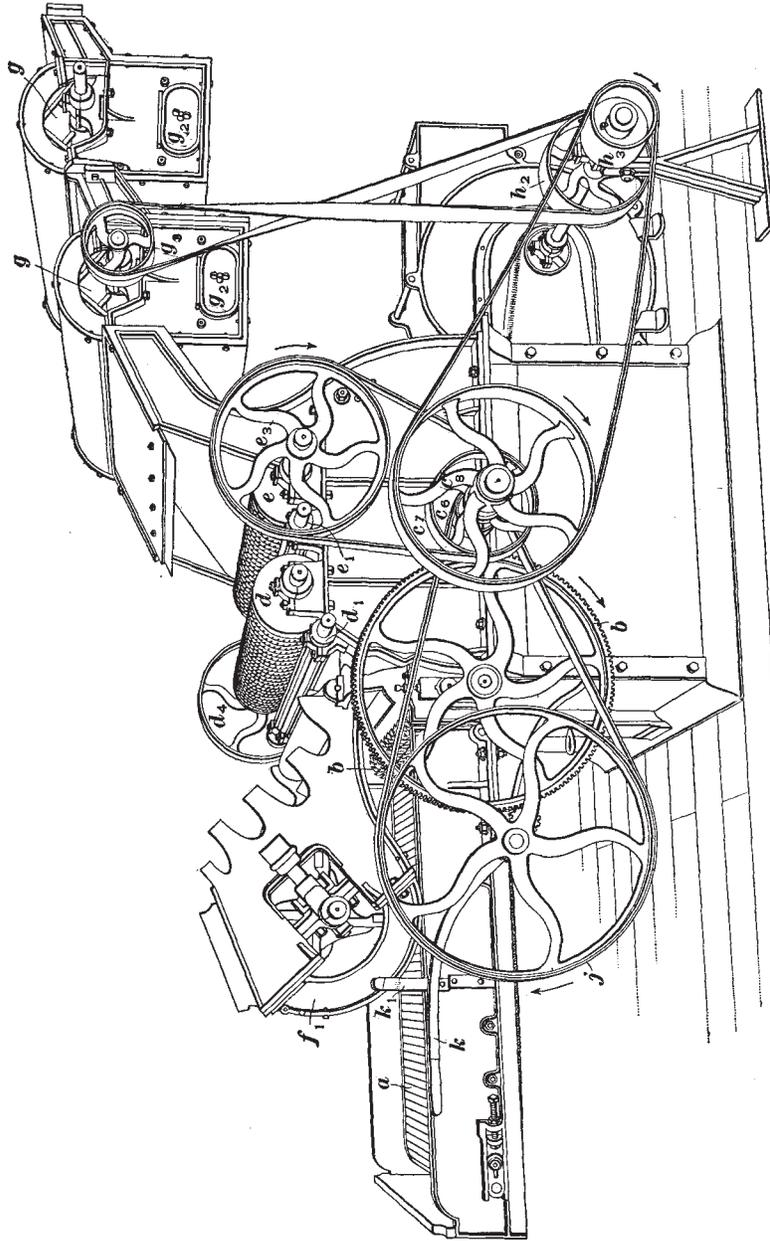
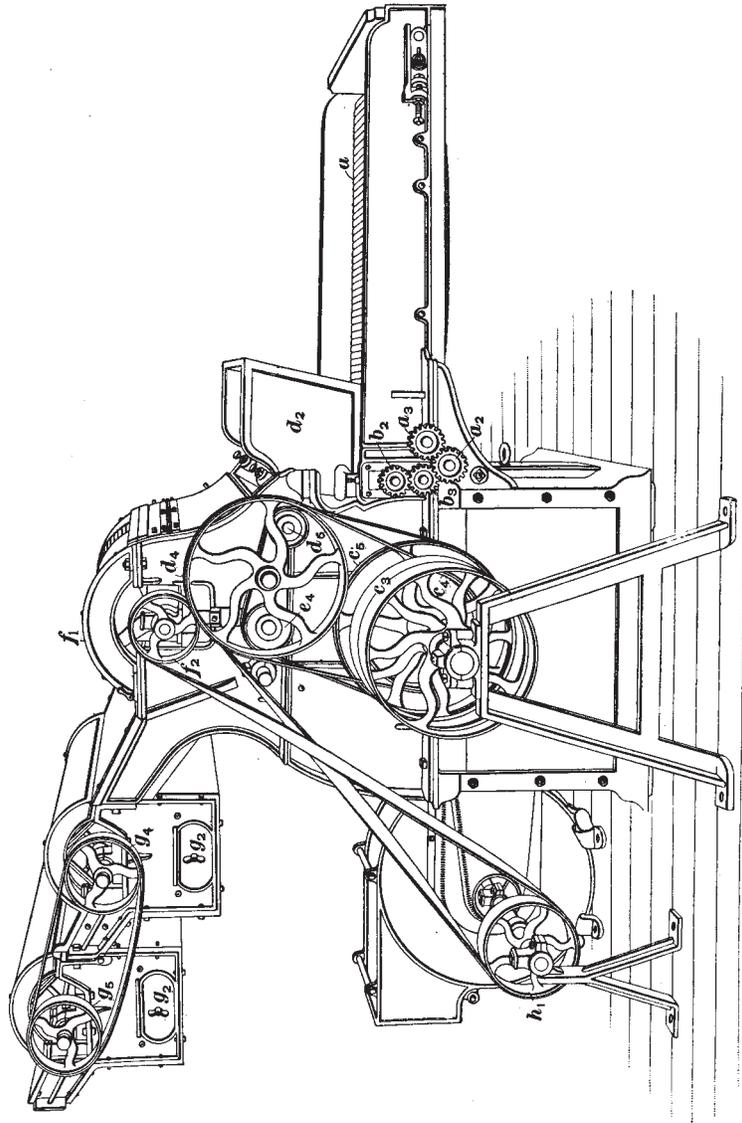
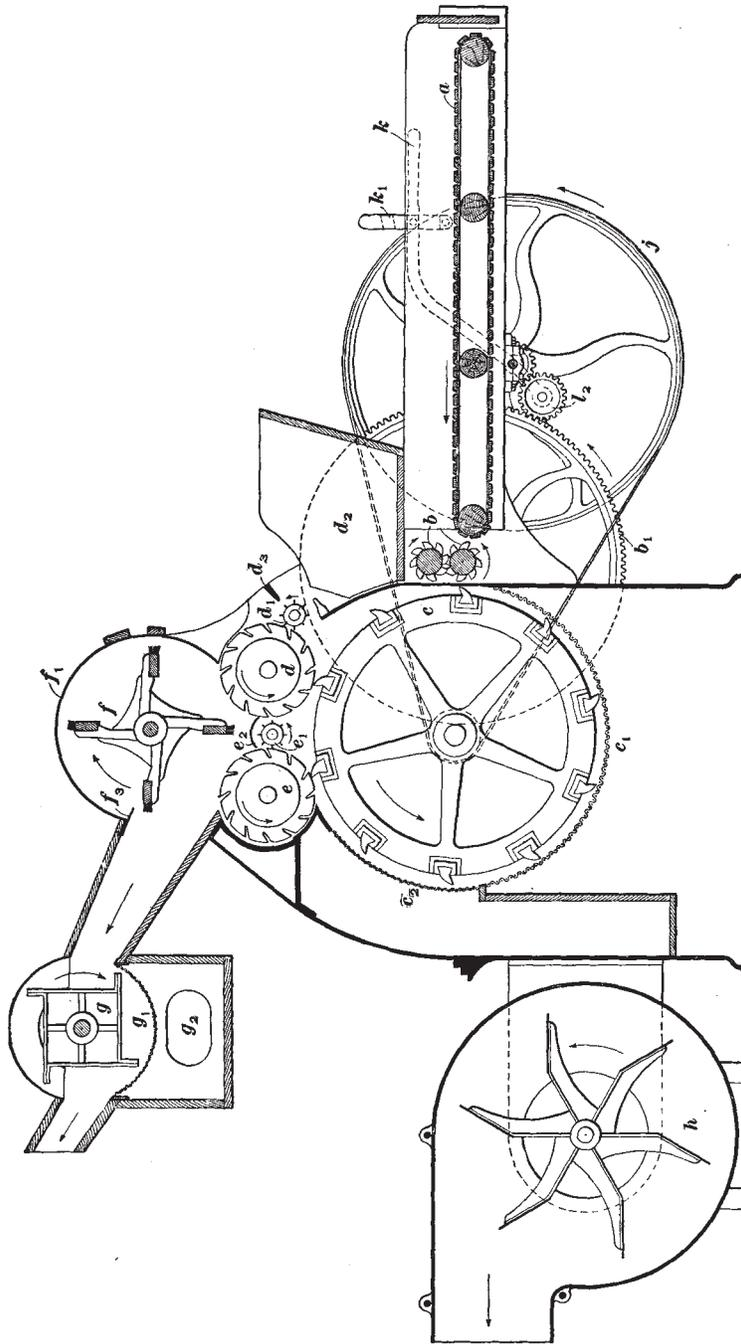
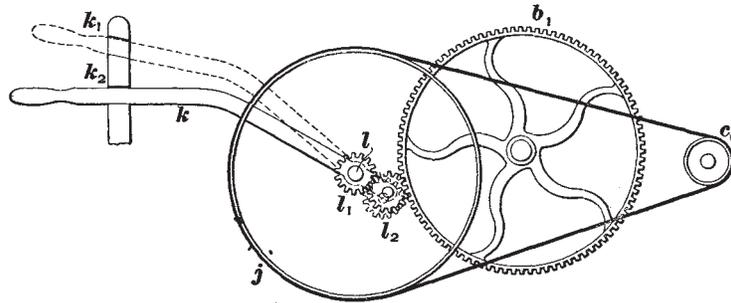

FIG. 1
FIG. 2
FIG. 3
FIG. 4
**3.** A very effective machine for removing the burrs from wool, known as the improved **Parkhurst burr picker**, is shown in Figs. 1 and 2; Fig. 3 illustrates the working parts. The construction and operation of this machine are such as to have the greatest cleaning effect on the wool with the least possible damage to the fiber. The machine is of solid construction, the framework being made of iron, with the exception of a few minor parts, which, as shown in Fig. 3, are constructed of wood. The greatest care is taken to have all working parts firmly adjusted and free running, since the high speed necessary in a burr picker, together with the large number of parts in motion, render it a machine requiring a considerable amount of power for driving purposes.
**6.** The beater is a square, box-like drum built up from a central shaft and having four blades attached; its object is to beat out such loose material as dust, shives, etc., which will then fall through the screen *g*, placed under the beater. Some machines have two beaters, as shown in Figs. 1 and 2; others only one, as shown at *g*, Fig. 3; while sometimes they are entirely dispensed with. The beaters are placed at the spout, where the wool leaves the machine, and, as the stock at this point is opened out nicely, they easily remove a large amount of finely divided dirt that has escaped the previous operations and that would otherwise pass through the machine with the wool.
7. The top of this machine is so arranged that it swings back, carrying the brush with it. This is a great advantage in cleaning the machine, as it exposes the burr cylinders and guards so that they may be easily cleaned and made ready for the next lot of wool. Fig. 1 shows the bonnet  $f_1$  laid back on the feed-apron and the burr cylinders exposed. The machine is provided with hinged doors, located under the feed-apron, for cleaning the space under the picking cylinder, which can be quickly cleaned between lots, as the doors can be opened without removing screws or bolts. Sliding brushes are placed under the screens beneath the beaters for the purpose of cleaning them. There is also a brush for cleaning the screen at the rear of the picker cylinder, which if clogged hinders the draft of the blower. This screen sometimes becomes coated with a gummy substance; if greasy wool is used it must then be taken out and washed with soda, potash, or any compound that will cut the grease. There are also small handholes  $g_2$  for cleaning the spaces under the beater screens and for removing the fine dirt and shives that fall through them.
8. **Driving.**—The driving of the various parts of the burr picker will be readily understood by the following description in connection with Figs. 1 and 2: The main shaft of the machine is fitted with tight and loose driving pulleys  $c_3$  and all working parts are belted from the main shaft. Only one belt is required to drive the machine, except on the large size (48-inch width) where a double drive is used, that is, a tight pulley on each side of the machine driven from a countershaft on which tight and loose pulleys are arranged. The front burr cylinder is driven by a 12-inch pulley  $c_4$  on the picker shaft, which drives a 16-inch pulley  $d_4$  on the front burr-cylinder shaft. This drive is shown in Fig. 2. The rear burr cylinder is driven on the other side of the machine, as shown in Fig. 1, by a  $9\frac{1}{2}$ -inch pulley  $c_5$  on the main shaft, which drives a 16-inch pulley  $e_5$ .
on the shaft of the rear burr cylinder. The blower is driven by a 17-inch pulley  $c_8$  on the main shaft, which drives a 6-inch pulley  $h_8$  on the blower shaft, also shown in Fig. 1.
The two burr guards are driven by a 17-inch pulley  $c_6$  on the main shaft, which drives two pulleys  $e_4, d_6$  on the burr-guard shafts, the pulley on the front burr-guard shaft being 4 inches in diameter and the pulley on the rear burr-guard shaft being 5 inches in diameter; these pulleys are shown in Fig. 2. A driving pulley  $h_2$ , 10 inches in diameter, on the blower shaft drives an 8-inch pulley  $g_3$  on the first beater shaft with a crossed belt, as shown in Fig. 1, and on the opposite side of the machine the two beaters are connected by a belt and 8-inch pulleys  $g_4, g_5$ , as shown in Fig. 2. A 10-inch
pulley  $h_1$  on the blower shaft drives a 7-inch pulley  $f_2$  on the shaft of the brush with a crossed belt. The driving of the feed-rolls is shown in Fig. 1, and is as follows: A  $4\frac{1}{2}$ -inch pulley  $c_6$  on the picker-cylinder shaft drives a pulley  $j$ , 24 inches in diameter, on a stud  $l$ , see Fig. 4. A pinion gear  $l_1$  with 15 teeth, fastened to the pulley  $j$ , drives an intermediate gear  $l_2$ , which in turn meshes with a 150-tooth gear  $b_1$ , fastened to the bottom feed-roll shaft. The top and bottom feed-rolls are coupled together with 15-tooth gears  $b_2$  and  $b_3$  on the opposite side of the machine, as shown in Fig. 2, the gear on the bottom feed-roll shaft also driving a 17-tooth intermediate  $a_2$  which drives a 17-tooth gear  $a_3$  on the front apron-roll shaft, thus driving the feed-apron.
**9. Device for Stopping Feed.**—There is a device on this machine for stopping the feed-rolls and apron without stopping the whole machine; this allows the operator to stop the delivery of wool to the picking cylinder immediately when anything wrong is seen with the working of the machine. The mechanism is simple and effective. A lever marked  $k$ , Fig. 4, is pivoted on the stud  $l$ . The pinion gear  $l_1$  is loose on this stud, as is also the pulley  $j$ . The gear  $l_2$  is loose on a stud fixed at the extremity of the lever  $k$ . Thus, when the lever is raised, as shown by the dotted lines, and held in that position by the slot at  $k_1$ , the gear  $l_2$  will be withdrawn from contact with the gear  $b_1$ ; this stops all motion of the feed-rolls and apron. The slots  $k_2$ ,  $k_1$  are cut in a piece of steel bolted to the side of the feed-trough and hold the lever firm when the pinion is in or out of contact with the gear  $b_1$ .
**10. Operation.**—In operation, the stock is spread evenly on the feed-apron  $a$ , Fig. 3, either by hand or by an automatic or self-feed, and is carried forwards to the pair of cockspur feed-rolls  $b$ . The wool is held by the feed-rolls and is combed and opened out by the rotating picking cylinder  $c$ , which revolves upwards past the feed-rolls. The picking cylinder carries the wool to the burr cylinders  $d$ ,  $e$ , and the stock is deposited in the spaces between the rows of teeth on the burr cylinders, while the burrs lie on the surface and are knocked off into the burr box  $d_2$  by the burr guards. The passage of the material from the feed-rolls to the picking cylinder and from the picking cylinder to the burr cylinders, the cylinders being in rapid rotation, results in the wool being beaten, drawn, and opened, the burrs gradually being thrown to the outside and ultimately hanging loosely from the burr cylinders from which they are easily knocked by the burr guards.
**13.** In Fig. 3, a steel straightedge, or knife, is placed at  $f_3$  to prevent the stock from winding around the brush and also to keep the bristles of the brush clean. At  $d_3$  a similar knife is placed to prevent the burrs that are knocked out by the burr guard  $d_1$  from flying back into the burr cylinder  $d$ . A guard  $e_2$  is placed over the burr guard  $e_1$  in order to prevent the wool removed from the burr cylinder  $d$  by the rotating brush from falling on the burr guard  $e_1$  and being thrown on the picking cylinder  $c$ .